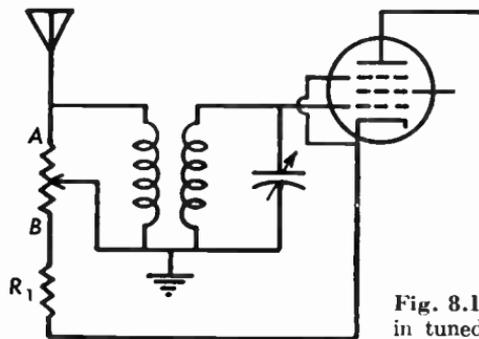

Fig. 8.15 Volume control, common in tuned radio frequency receivers.
**8.15** The antenna-bias type volume control of Figure 8.15 has a value of 10,000 ohms and is variable only from *A* to *B*. The 6K7 tube is operated under the following conditions:  $E_p = 90$  volts,  $E_s = 90$  volts,  $I_p = 5.4$  milliamperes,  $I_s = 1.3$  milliamperes, and  $E_g = -3$  volts. Calculate the value of the variable range of the tapped volume control. If this type volume control were not available for replacement, what would be a fair value for  $R_1$  and  $R_{ob}$  employing two separate parts.